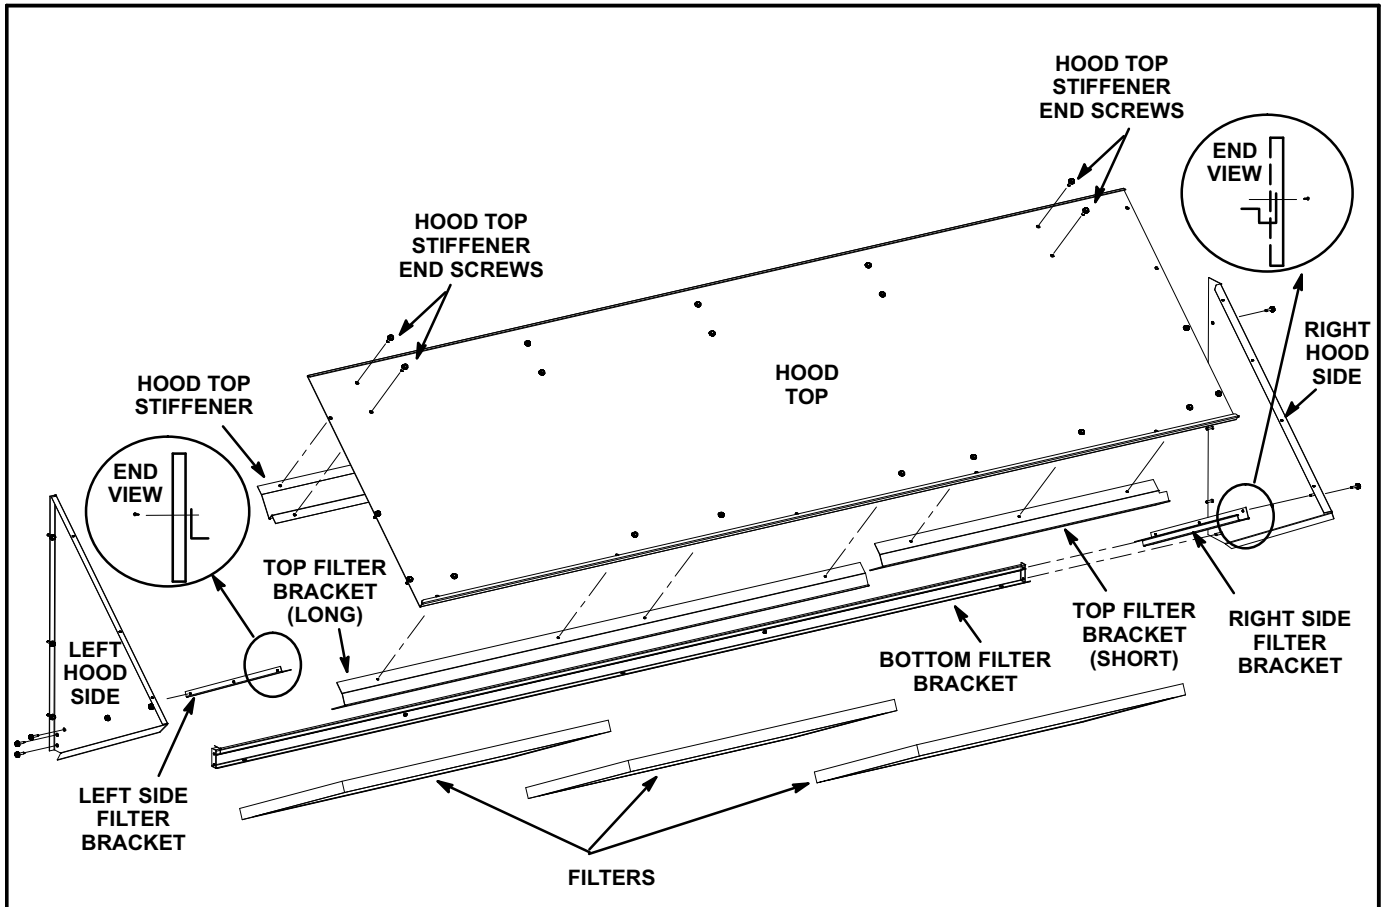

FIGURE 11
- 8- Install L-shaped left side filter bracket to left hood side. See figure 11.
- 10- Install the right side filter bracket to the right hood side. See figure 11.